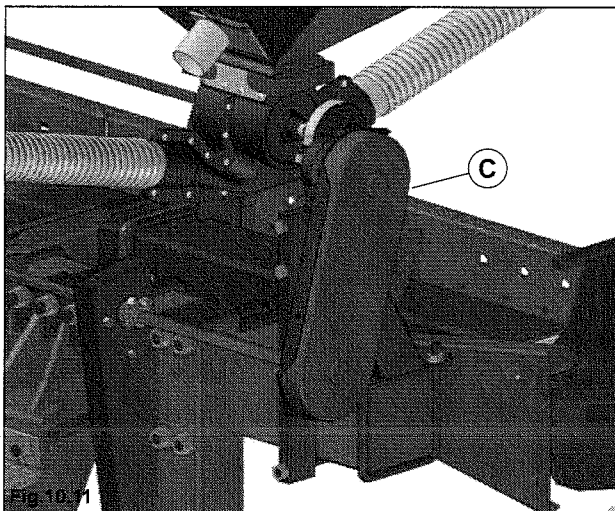

Fig. 10.11
- Remove the cover **C** by pressing the appropriate catch **M** with your fingers (Fig.10.11).